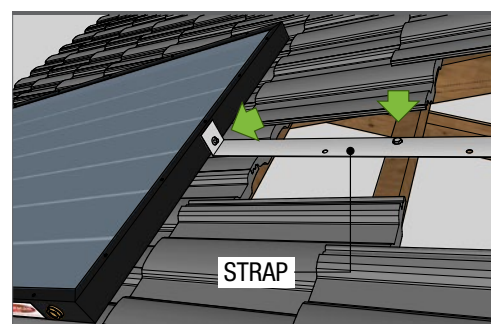
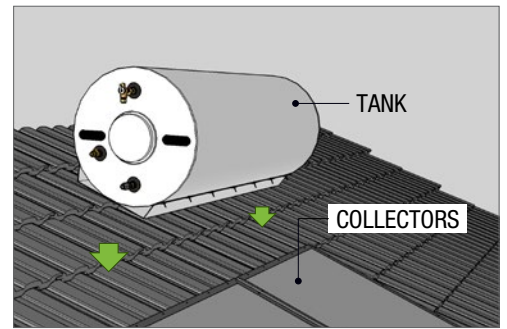

Fig 8
Fig 9
10. Fix the top collector strap to roof either directly through tin / metal sheet and into batten below (Fig 8) or by removing tiles and fastening directly to batten (Fig 9). Replace tiles back over the fastened strap
3. Carefully lift the storage tank into position and centralise it along the top edge of the collectors (Fig 9)